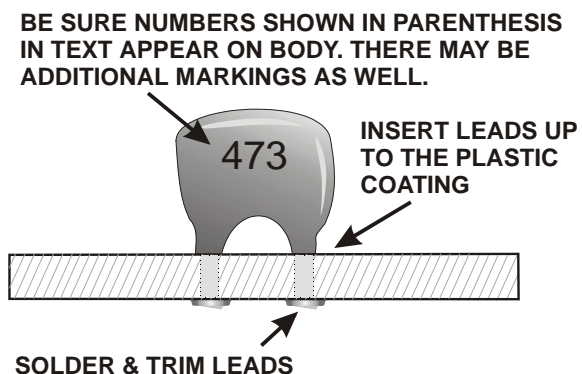

Figure 10. Installing Capacitors.
Install capacitor C1, .047 μ F (473) on the BACK side of the board (the side that is NOT silk screened). Position the capacitor as shown in Figure 10 .